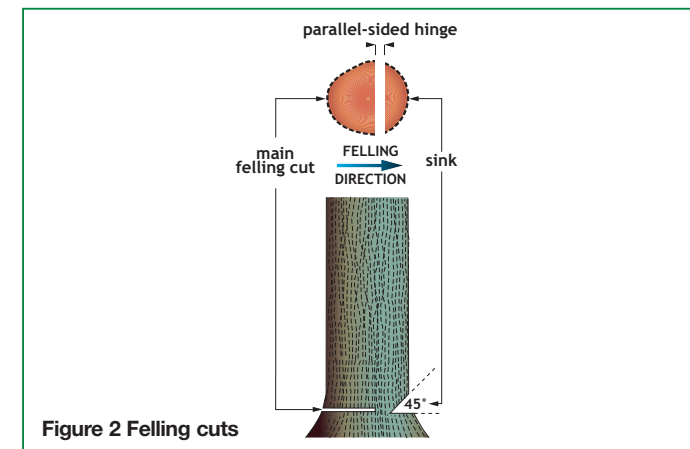

Figure 2 Felling cuts
- 15 Make the main felling cut at or slightly above the level of the bottom sink cut (see Figure 2). Use appropriate aid tools or techniques where there is a possibility of the tree moving and trapping the saw.